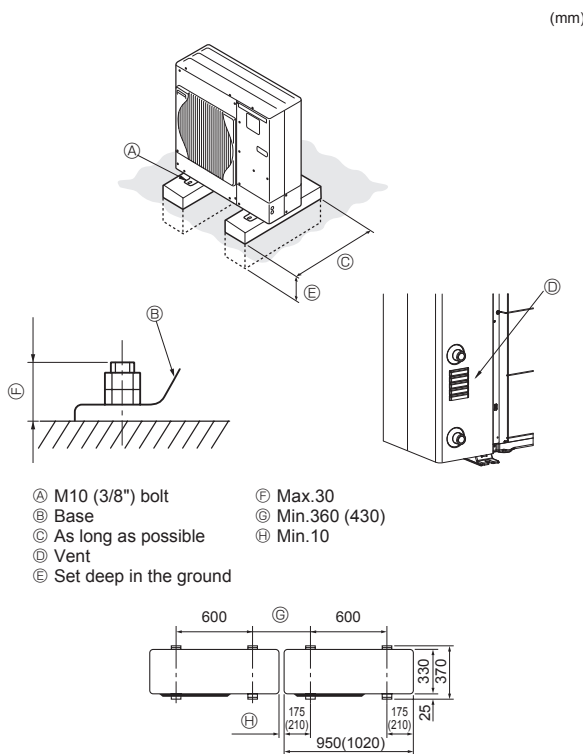

Fig. 3-1
• Be sure to install the unit in a solid, level surface to prevent rattling noises during operation. (Fig. 3-1)